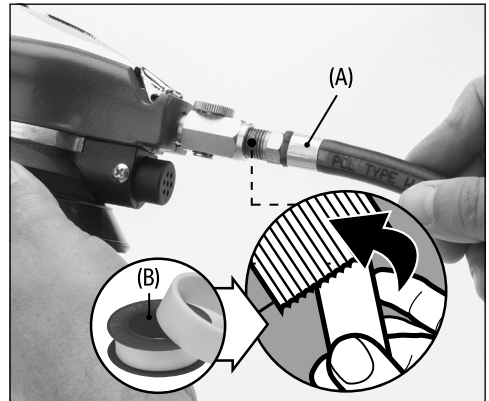

Fig. 2
6.2 Connecting to the Air Supply - Fig. 2